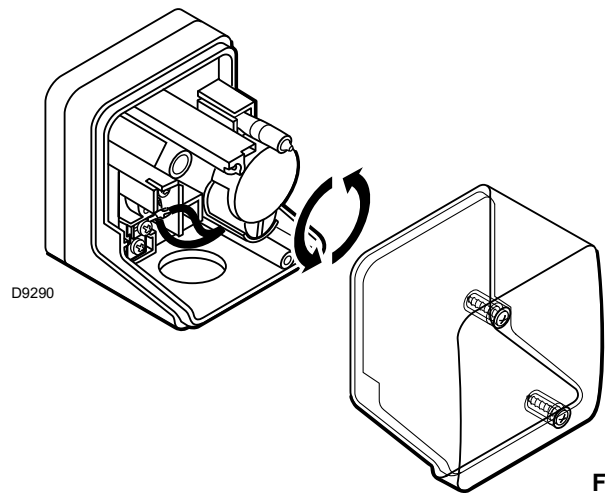

Fig. 36
- Adjust the minimum gas pressure switch (Fig. 36) to the start of the scale.